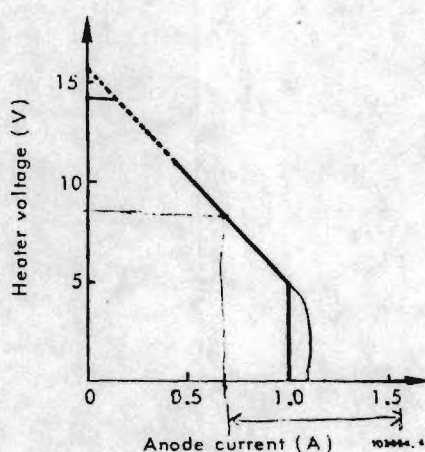

Fig. 1 - Heater-voltage adjustment curve
- 3 — The warm-up voltage must be adjusted according to the average anode current (see Figure 1).
Apply the high voltage, reducing the warm-up voltage as indicated by the curve of Figure 1.